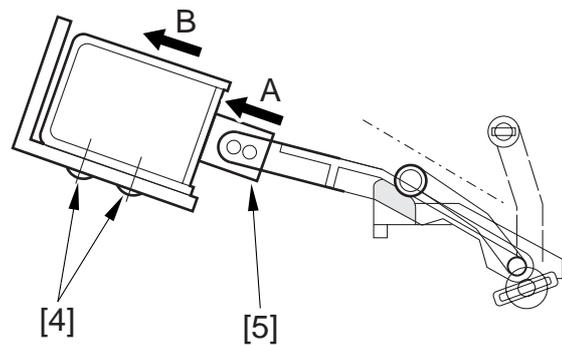

Figure 3-317
- 5) Set the solenoid in. (Figure 3-317-A)
- 6) While the solenoid is pulled in, cover the solenoid shaft [5] with your finger, and pull out the solenoid. (Figure 3-317-B)